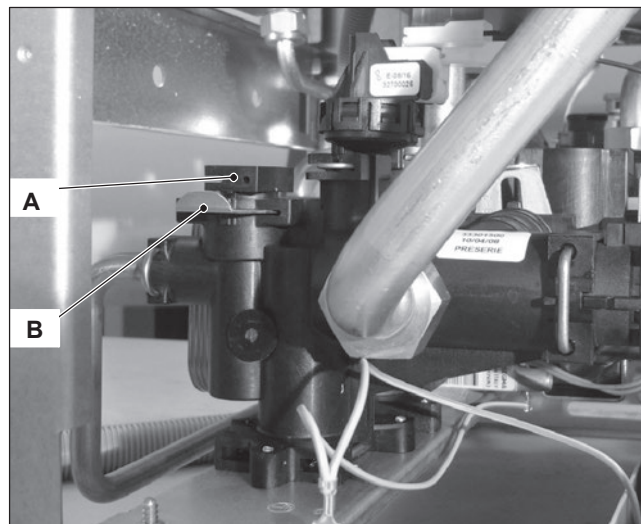

Figure 16.2
- 4 Reassemble the by-pass valve as illustrated in Figure 16.2 reversing the order of removal.